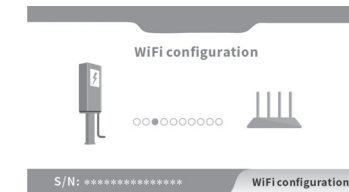

Fig.1 / WiFi configuration
5. Press and rotate to reset the emergency stop button three times in succession until the four indicator lights illuminate in a cycle corresponding to the running lamp mode. At the same time, the LCD screen changes to the WiFi configuration page. Click the „CONFIRM“ button of the APP on the smartphone (Fig.1).